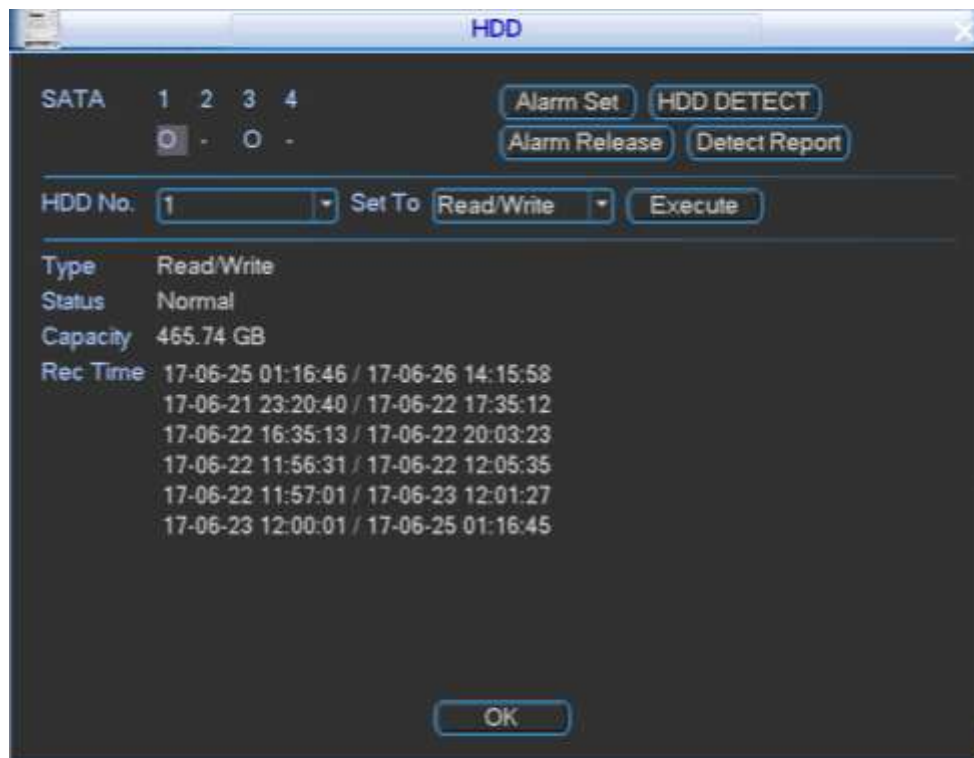

Figure 4-50
Step 1 From Main menu->Setting->Advanced->HDD, enter HDD management interface. See Figure 4-50.